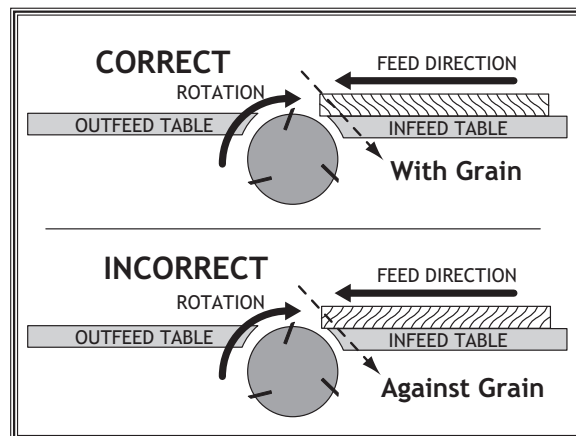

Figure 23. Correct setting for grain alignment.
- **Jointing and surface planing with the grain produces a better finish and is safer for the operator.** Cutting with the grain is described as feeding the stock on the jointer so the grain points down and toward you as viewed on the edge of the stock (see Figure 23).